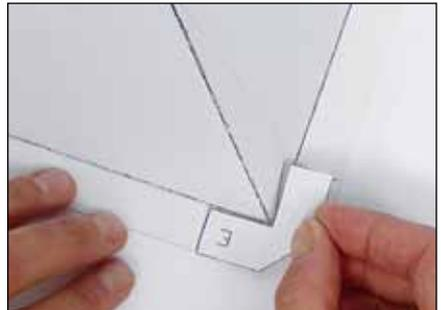

Figure 7
10. Turn the reflector box facedown. Place a Part E over each corner of the reflector box and mark where they stop covering the box edges. Apply glue in the marked sections and press a Part E – shiny side down – over each corner (Figure 7).